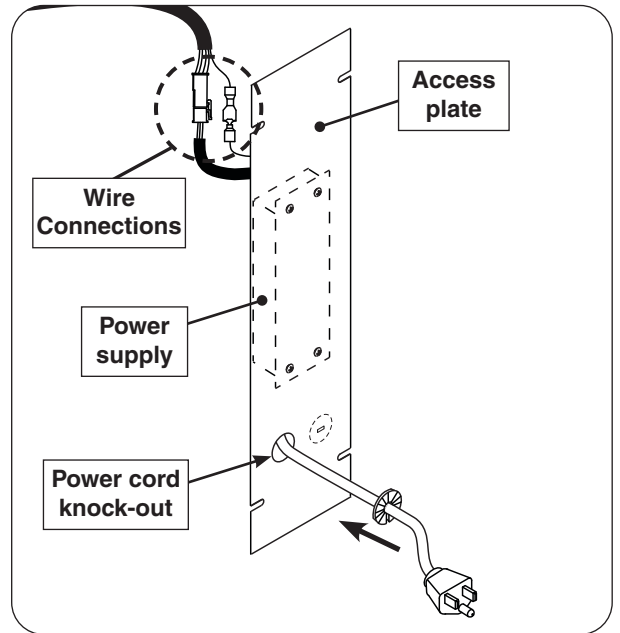

Fig. 20-1 Access plate view & orientation
A power supply is pre-mounted to the access plate. For ease of installation, disconnect the power supply from the wire harness extension. Locate the wires coming from the inside of the post to the power supply and carefully disconnect (see Fig. 20-1 and 20-2).
4. Install the bushing onto the power cord and slide the bushing up against the access plate knock-out hole and snap into place. See Fig. 20-1.